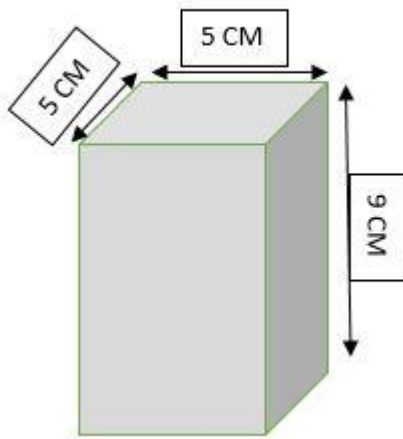

Figure 4A: Dimension of Block
- Dimension of each block is 5cm x 5cm x 9cm as shown in Figure 4A. (If the thermocol sheets of required dimensions are not available then the teams may cut or join the available sheets on their own.).